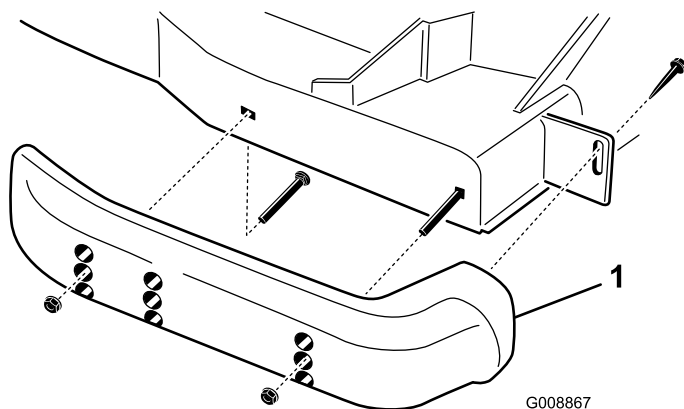

Figure 29
1. Loosen the screw at the front of each skid (Figure 29).
2. Remove the flange-head bolts and nuts from each skid (Figure 29).